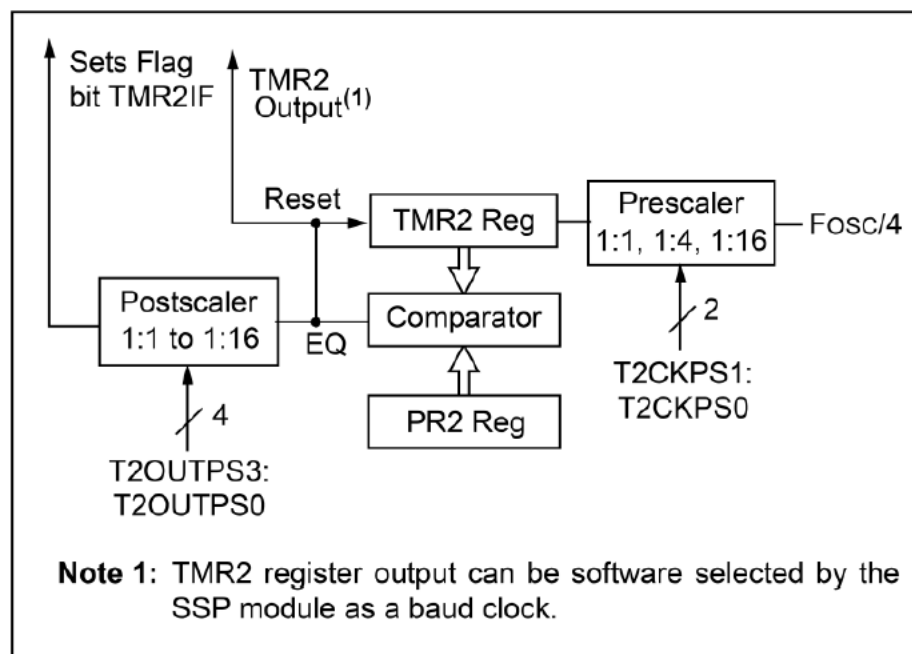

Figure 3(a): Timer 2 block diagram
a) A Timer 2 block diagram is shown in Figure 3(a). Timer 2 is used to generate a delay of $30\ \mu\text{s}$.